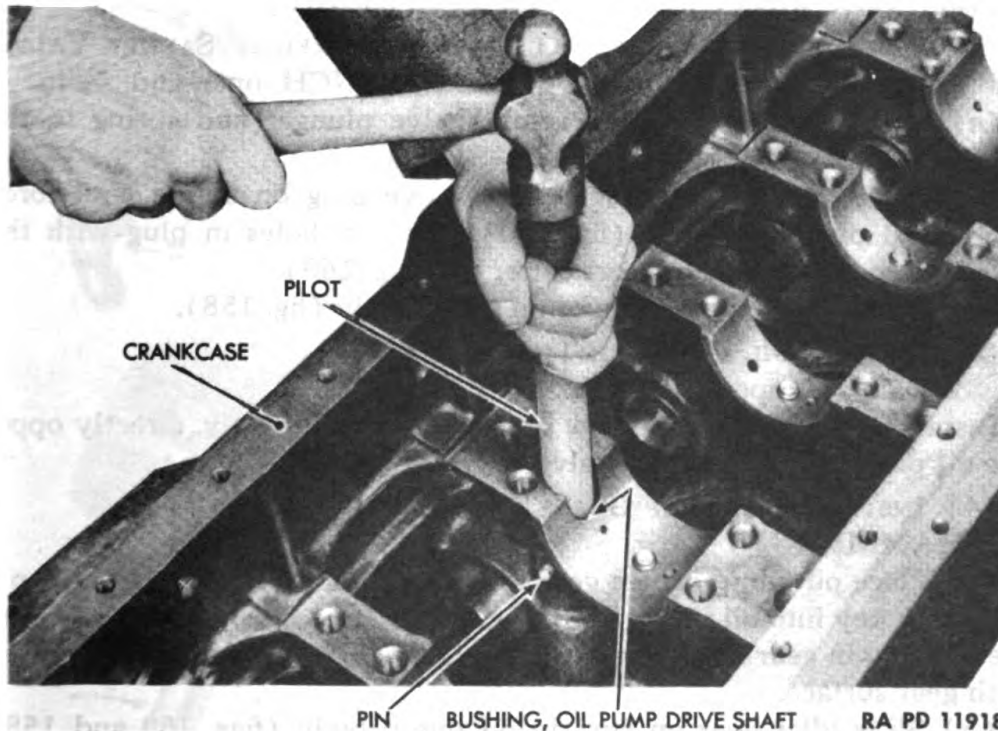

Figure 159—Driving Out Oil Pump Drive Shaft Bushing
1. Drive out pin which locks bushing in crankcase (fig. 159).
2. Using a $\frac{7}{8}$ -inch pilot and hammer, drive out upper oil pump drive shaft bushing (fig. 159).
2. Using a $\frac{7}{8}$ -inch pilot, drive bushing to seat in crankcase (fig. 159). Bushing should be $1\frac{1}{4}$ inches from surface on which crankshaft bearing cap seats.
4. Using a drill with a $\frac{3}{16}$ -inch bit, drill a hole into bushing for bushing locking pin. Use drilled locking pinhole in boss projecting outside bushing as a guide. Tap locking pin in place, then peen end of pin (fig. 159).